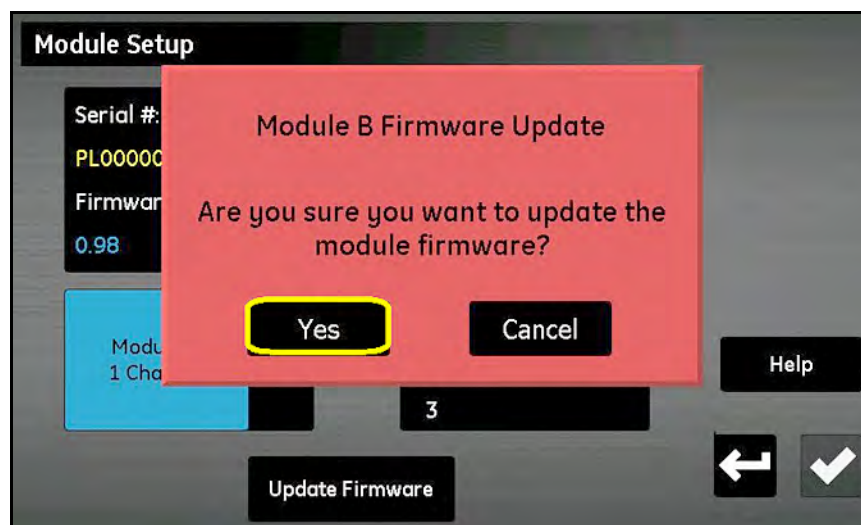

Figure 96: Confirmation Screen
6. Tap the **Update Firmware** button, and the moisture.IQ prompts you to confirm that you want to update the module firmware (see *Figure 96* below). Tap the **Yes** button.